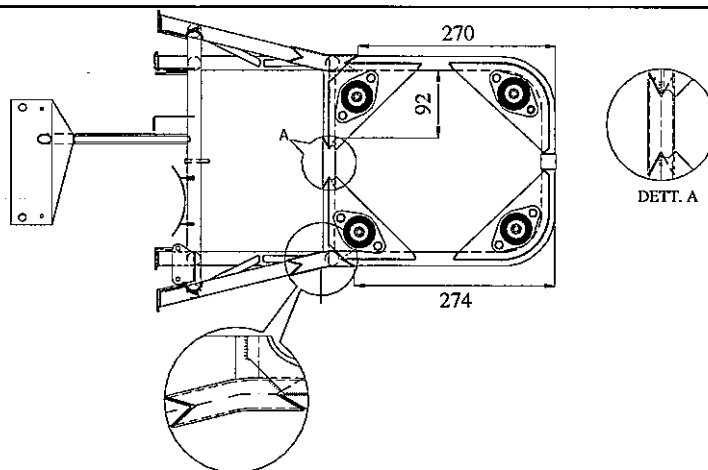

Fig. 16
*The engine mount is made of chrome-molybdenum tubes (25CrMo4N/SAE 4130N). The engine mount modification consists in the application of three reinforcements to the locations indicated in the following drawing (fig.16):*